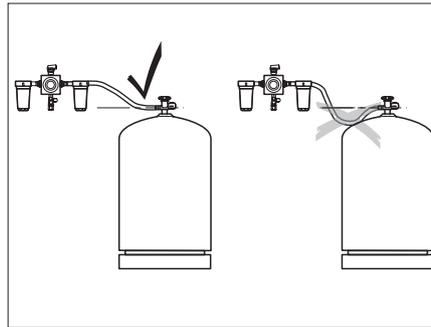

Fig. 64 Routing the high-pressure hoses
- ▶ When routing the high-pressure tubes ensure that the tubes rise continuously (Fig. 64).